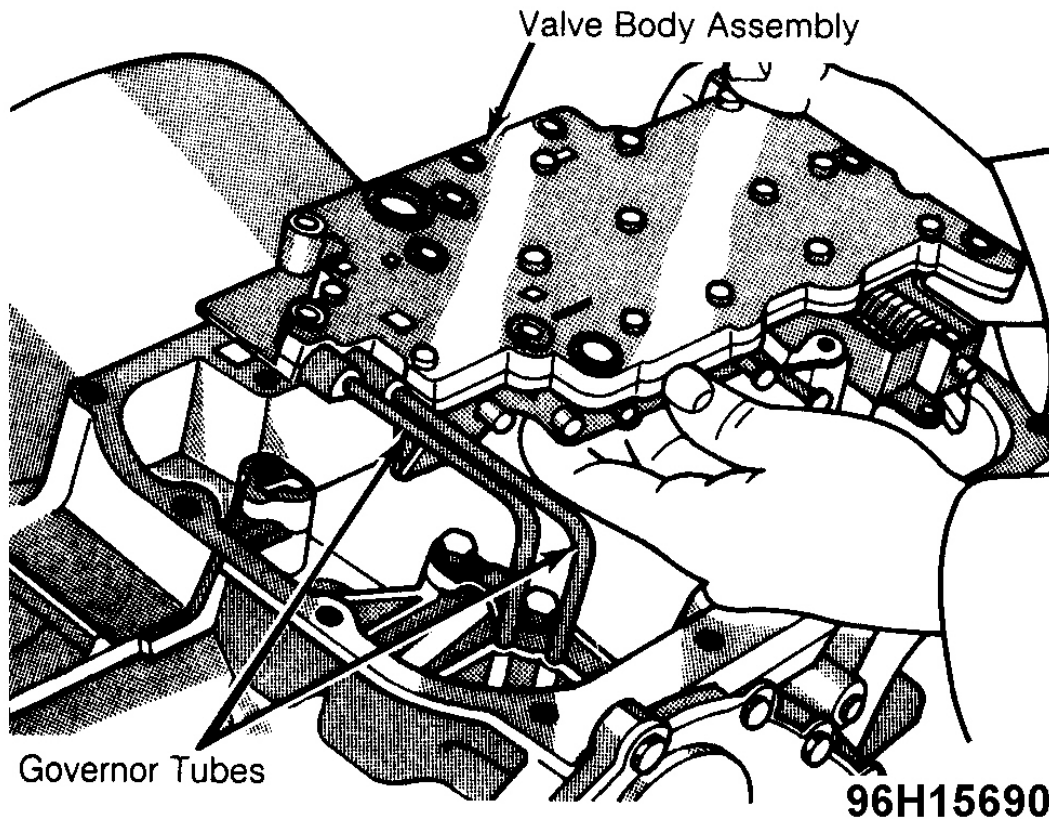

Fig. 5: Removing Valve Body Assembly
5. Remove end plate and slide out 2-3 shift valve governor plug. Remove next end plate and slide out 1-2 shift valve governor plug. See **Fig. 5** .